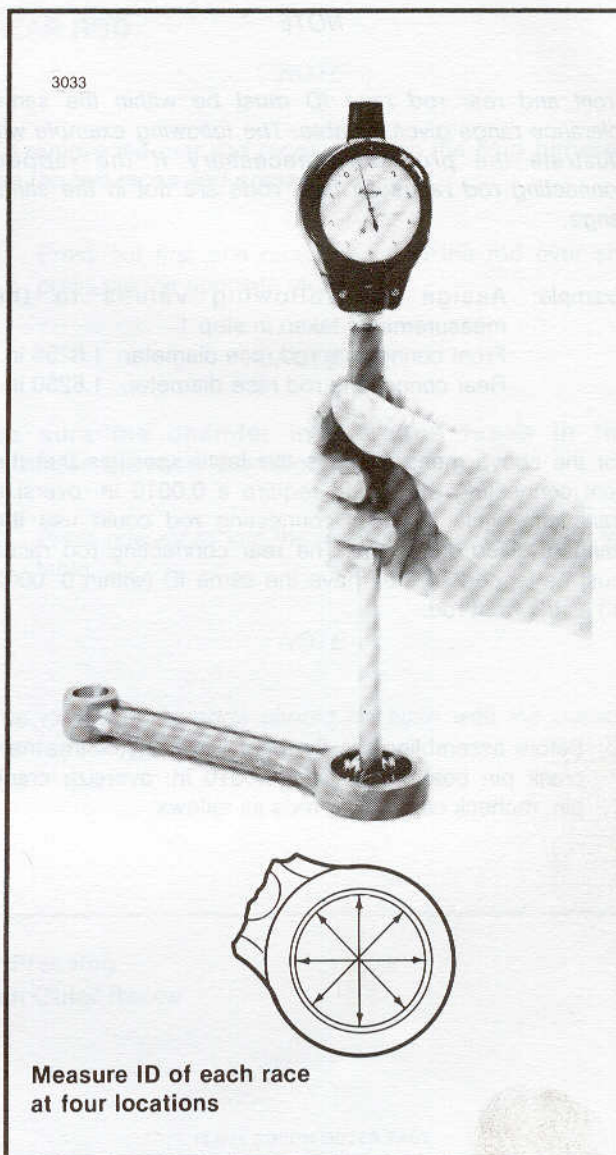

Figure 3-71. Measure Connecting Rod Race Inside Diameters
1. See Figure 3-71. To properly fit the rod bearings, measure inside diameter (ID) of lapped connecting rod races with a dial bore gauge that has 0.0001 in. graduations. Measure the ID at four places as shown. Record the four measurements.